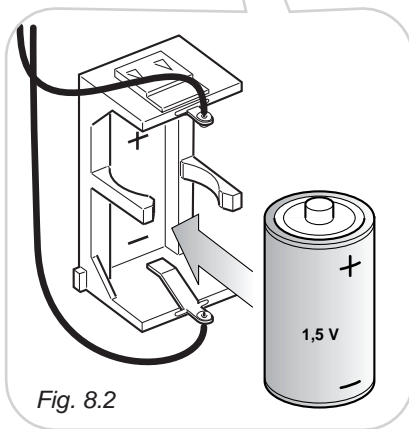

Fig. 8.2
- Check for correct polarity (fig. 8.2 and label to the side of the battery compartment).